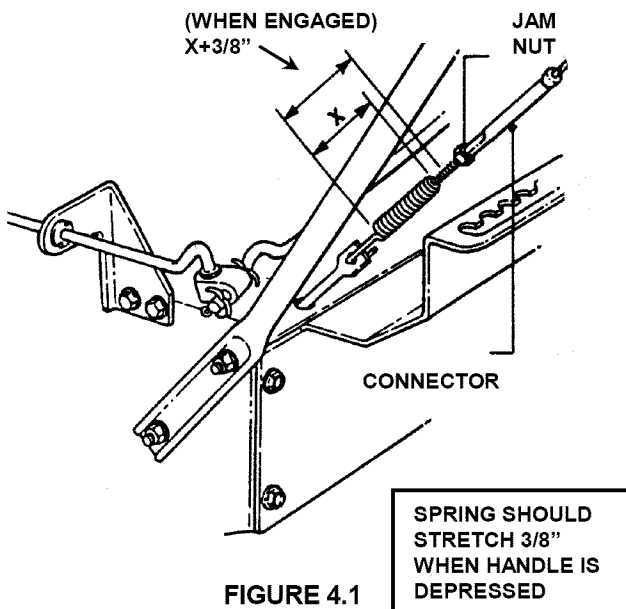

FIGURE 4.1
1. Measure control cable extension from a relaxed position to full extended position. Move control lever against handle. Measure the overall length of the spring. The length of the cable spring should increase by $3/8$ " when the clutch control lever is depressed. See Figure 4.1.